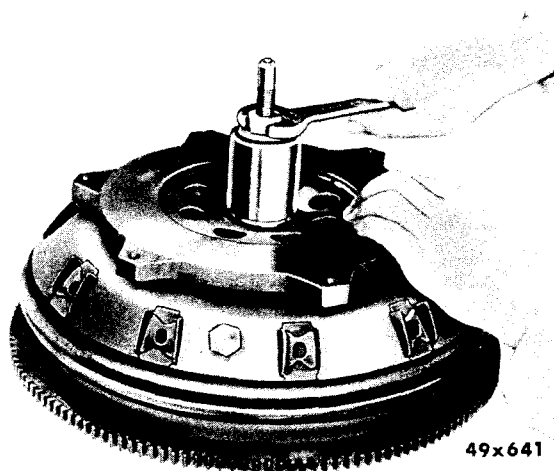
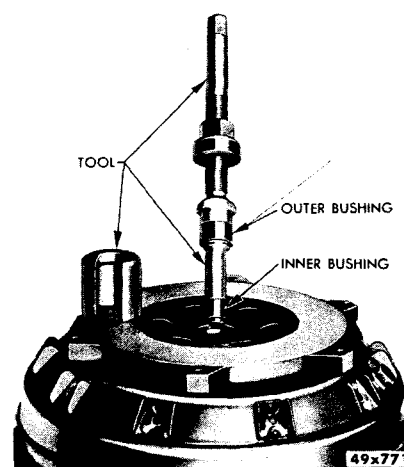
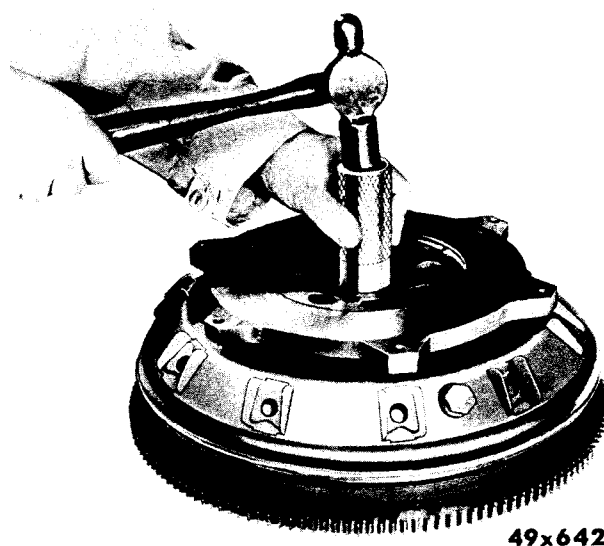
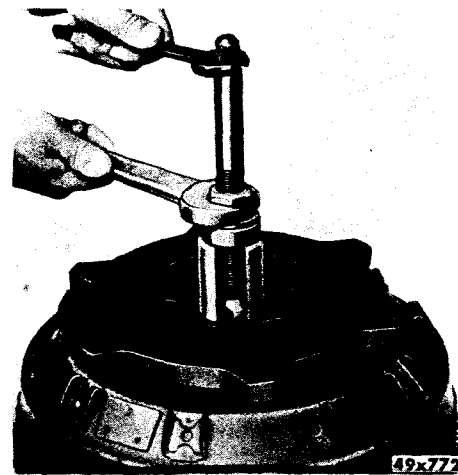

Fig. 29 — Removing Bushing
Fig. 30 — Bushings Positioned on Tool for Installation Tool (C-708)
Fig. 31 — Installing Bushings
Fig. 32 — Line Burnishing Bushings (Tool C-790)
- (1) Place fluid coupling unit on bench and remove clutch driving plate nut. Do not remove plate.
- (2) Using puller Tool C-625, remove outer hub bushing with puller sleeve and large expansion jaw. Remove inner bushing using small expansion jaw without the sleeve (Fig. 29). Clean all parts thoroughly. Place new inner and outer Oilite bushings on installing and burnishing Tool C-708, as shown in Figure 30 and insert in hub. Drive both bushings into hub until they are seated (Fig. 31). The bushings are burnished during the removal of tool, as shown in Figure 32.